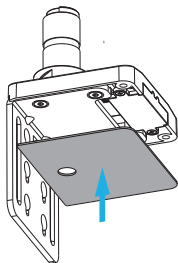

Figure 3
- Carefully apply the **Base Pad** to the bottom of the **Base Mount**. (Figure 3)